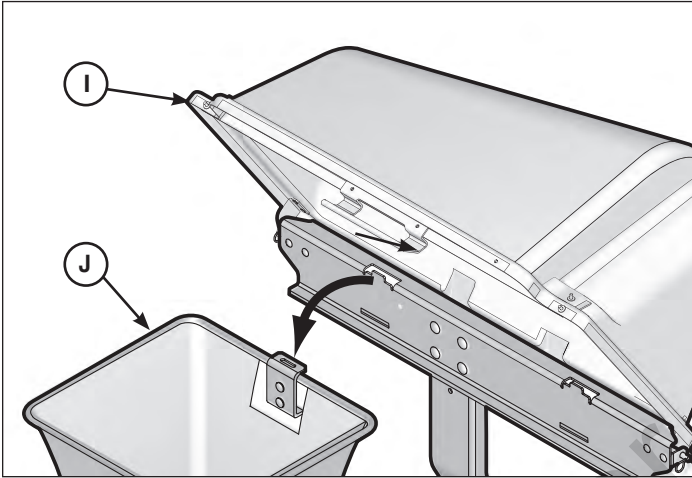

Figure 6
1. Lift the cover assembly (I, Figure 6).
2. Remove the bags (J). Empty and let the bags dry.